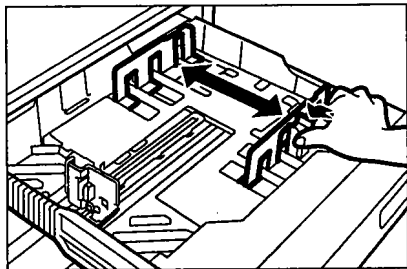

Figure 1-32
- 2) Hold the lever as shown in Figure 1-32, and slide the width guide until it is positioned over the appropriate paper size index.